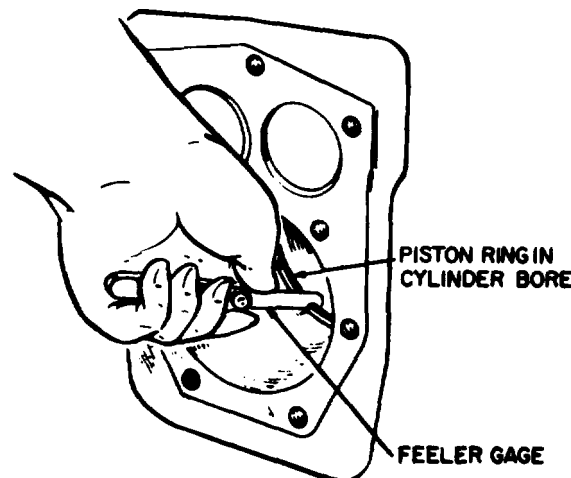

Figure 5-53. Fitting Piston Rings to Cylinder
- (8) Replace pistons showing signs of bad scoring or burring, excessive skirt clearance, wavy or worn ring lands, fractures or damage from detonation. Replace piston pins showing fractures, scored bores or bore out of round more than 0.002 inch (0.051 mm).
- (9) Use a new piston to check the pin bushing in the connecting rod for wear. The clearance should be as shown in Table 5-3.
- (10) Before installing new rings on the piston, check the ring gap by placing each ring squarely in its cylinder at a position corresponding to the bottom of its travel. See figure 5-53. The gap between the ends of the ring is given in Table 5-3. Rings which are slightly oversize maybe filed as necessary to obtain the correct gap, but do not use rings which require too much filing. Standard size rings may be used on 0.005-inch (0- 127mm) oversize pistons. Other oversize rings must be used with corresponding oversize pistons Rings of the tapered type are usually marked top on one side, or identified in some other manner and the ring must be installed with this mark toward the closed end of the piston.